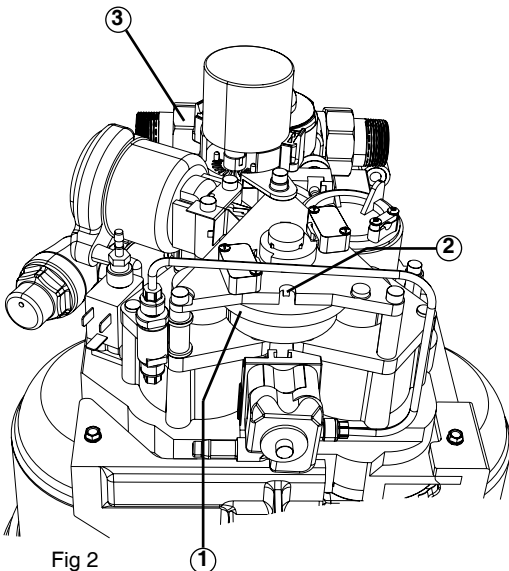

Fig 2
- c) The operating piston rotates the driver (1) (fig. 2), which controls the small gear wheel. The position indicator (2) allows to read the driver's position. The "Influx of salt" position (pos. 2) is reached after two lifts. Afterwards, the operating piston initiates another lift. The waste water quantity used up to then amounts to approximately 4.5 litres.
- d) The "backwash" position is reached after this lift (pos. 3). The resin is flushed upwards. Waste water roughly 3 - 4.5 litres
- e) Two further lifts are carried out until the position "Primary filtrate" (pos. 5) is reached. At this stage, the resin is flushed downwards (waste water 2.5 - 4 litres).
- f) After two further lifts, the regeneration of the first tank is completed. The driver now turns with two lifts the right gear wheel to the position "Influx of salt" (pos. 2) to regenerate the second tank
- g) The "backwash" position (pos. 3) is reached after this lift. The resin is flushed upwards (waste water approx. 3 - 4.5 l).
- h) Two further lifts are carried out afterwards until reaching the position "Primary filtrate" (pos. 5). At this stage, the resin is flushed downwards (waste water approx. 2.5 - 4 litres).
- i) After two further lifts, the regeneration of the second tank is completed and the operating position (pos. 1) is reached again.
- j) Should the measured values distinctly deviate from the target values (refer to chapter "Maintenance report"), inform the after-sales service. Please, always indicate the serial number, which you will find on the upper side of the device's connection flange (3) (fig.2).